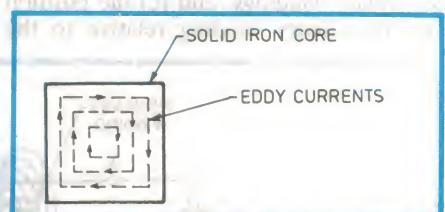

Fig.11: In a solid iron core, the changing magnetic flux causing ‘eddy’ currents to flow.
(3) EDDY CURRENT LOSSES: In a solid iron core, large circulating currents (see Fig.11) occur in the iron. These are called *eddy currents*. In a solid core, eddy currents heat up the core, wasting energy and possibly damaging the trans-